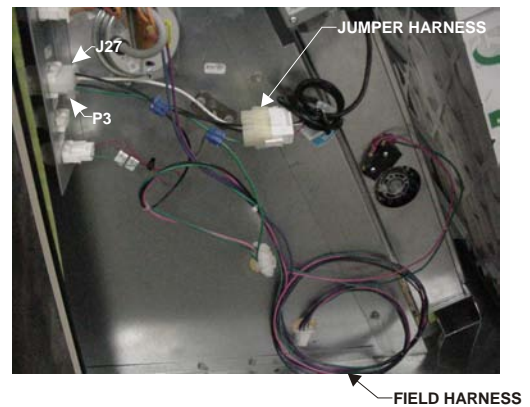

Figure 4
6. Install the provided ERS field harness between J3 and P3 by plugging P27 into J3, plugging J27 into P3 harness. **See Figure 4.**
7. Plug P193 from ERS field harness into J104, the plug previously pushed through the wall. Also plug P18 into J18 at side panel. **See Figure 4.**